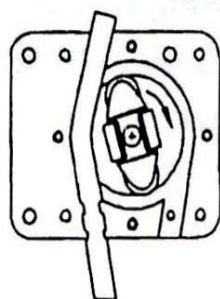

FIG. 1
6. Use one thumb screw to temporarily anchor the housing to the case. Connect power and run at slowest speed until roller bracket assembly is in position as shown in figure 1.